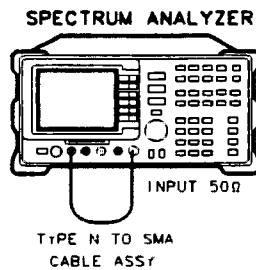

Figure 4-5. Frequency Span Accuracy Test Setup (Spans \geq 500 MHz)
1. Connect the equipment as shown in Figure 4-5.